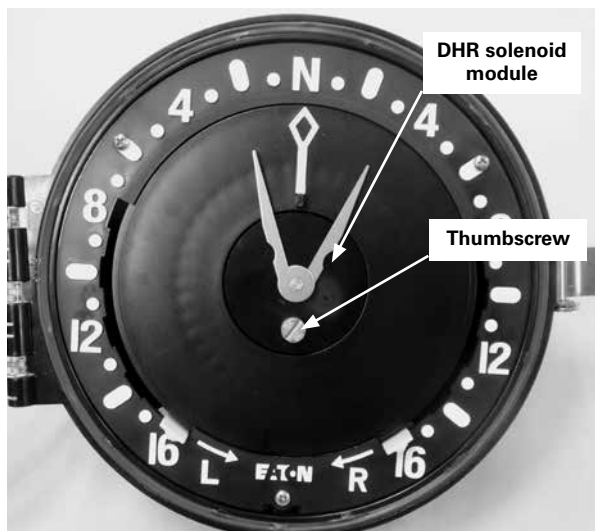

Figure 4. DHR solenoid module thumbscrew
3. Using a standard screwdriver, loosen the thumbscrew on the drag-hand reset (DHR) solenoid module. See Figure 4.